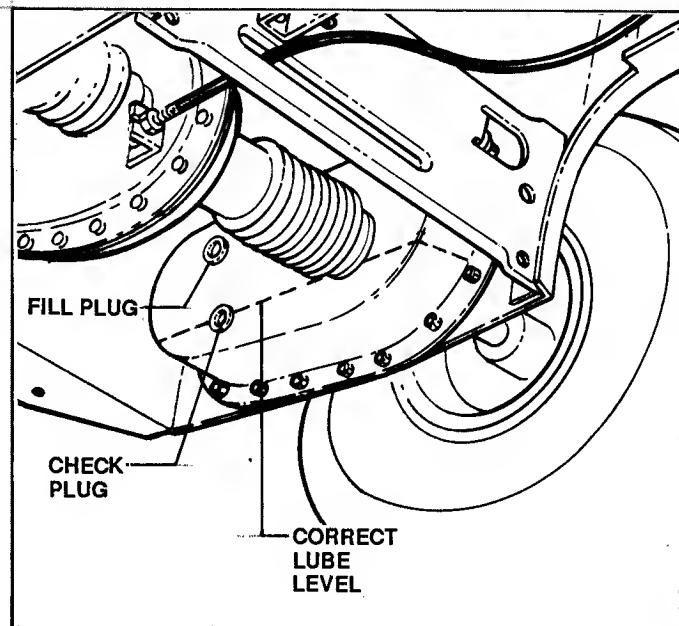

FIGURE 16
- CHECK GREASE LEVEL by removing CHECK PLUG on inside of unit shown in Figure 16 to check level of oil. Add **SNAPPER** "0" grease as needed thru upper fill hole to bring the level up to the lower edge of the CHECK PLUG hole. Reinstall NEW plugs after servicing.
- CHAIN CASE: Remove plug and check. If dry, add one ounce of **SNAPPER** "0" grease—do not overfill. Total capacity must not exceed 2 ounces. See Figure 16.